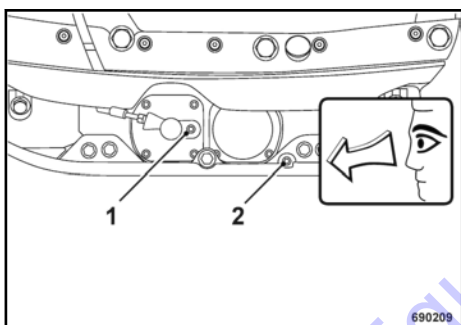

Fig. 56
Unscrew the bleeding screw (1) ↪ Fig. 56.